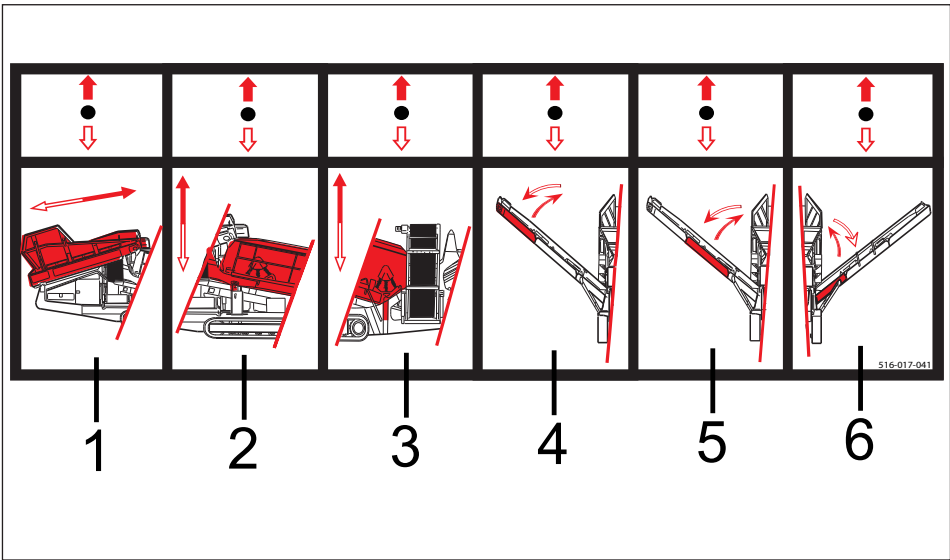

Figure 4.77 - RHS Control Bank Decal
4. Fold out the head section using lever 4 (Figure 4.77) slightly to make sure there is slack on the belt.
5. Unfold the mid-section until it is almost vertical using lever 5 (Figure 4.77).
10. Go to the Right Hand Side of the machine and finish unfolding the head section of the conveyor (Lever 4, Reference: Figure 4.77).